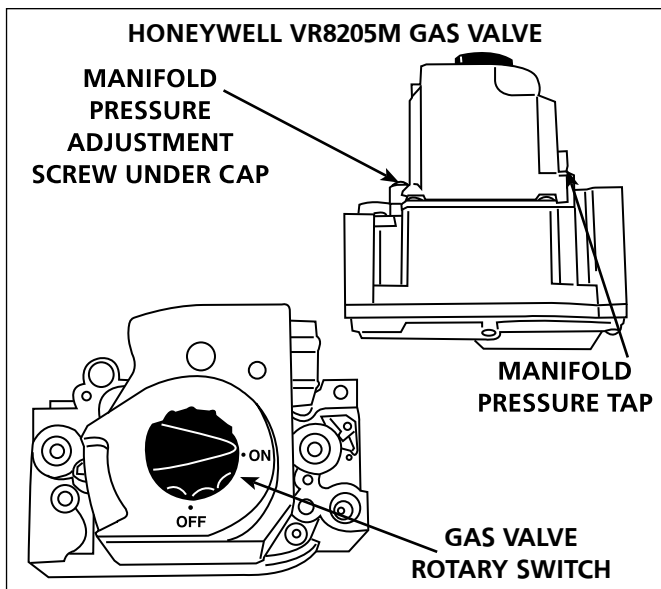

FIGURE 10
GAS VALVE OPERATION FOR HONEYWELL VR8205M SERIES VALVE (FIGURE 10)
5. There is a black rotary switch knob that can be moved between the on and off position. Rotate the switch knob to the off position. (See Figure 10)
2. After line pressure has been checked and adjusted, check manifold pressure. Correct manifold pressure is shown on the unit rating plate. See **figure 10** for gas pressure adjustment screw location. A natural gas to LP/propane gas changeover kit is required to convert unit. Refer to installation instructions provided with changeover kit for conversion procedure.